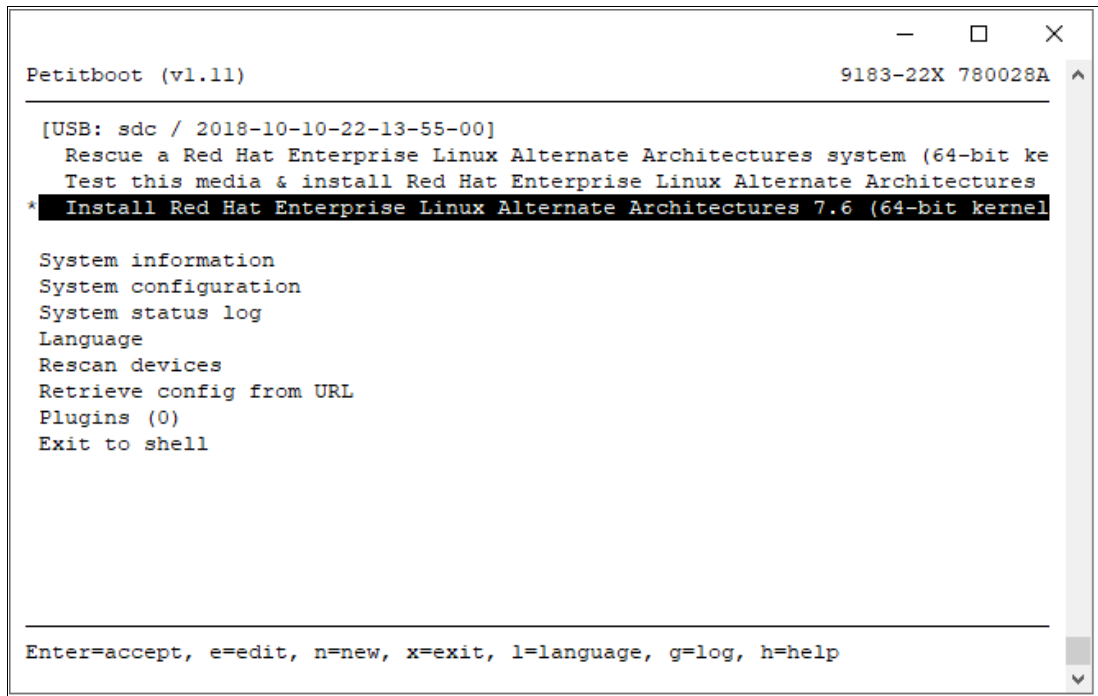

Figure 2-6 Red Hat installation from Petitboot
Before you continue, remember the UUID of the virtual media boot device. In the example that is shown in Figure 2-6, the UUID is 2018-10-10-22-13-55-00.
4. Click OK. The boot menu opens again, as shown in Figure 2-6 on page 44. Start the installation by pressing Enter while the Install Red Hat line in Petitboot is highlighted.
2. Plug the USB stick into any of the USB ports and start the system into the Petitboot loader. The USB stick appears in a way that is similar to what is shown in Figure 2-6 on page 44.